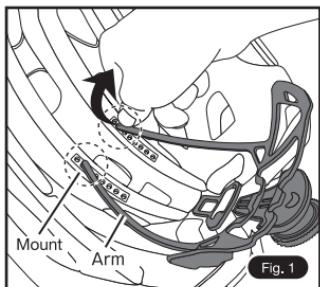

Fig. 1
① Hold the root of the arm **Fig. 1**, then pull out the arm end.